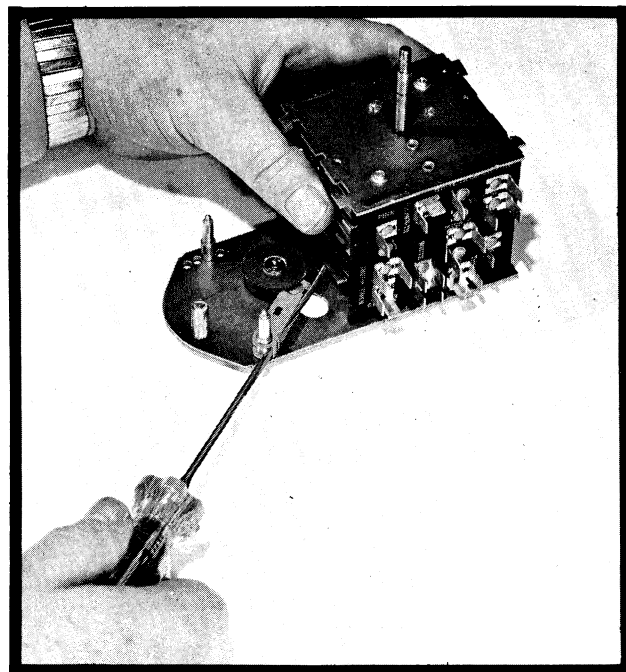

Figure 30
- f. Position the spring with the formed end of the spring into the retaining slot, *Figure 30*